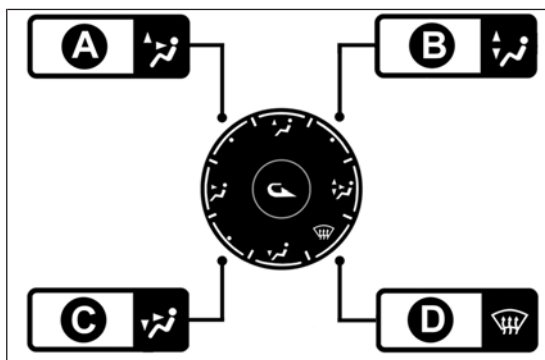

fig. 37
- turn knob E to  with the possibility of moving it to position  (B fig. 37) if demisting does not occur;
There are also another 4 positions (see diagram below fig. 37):